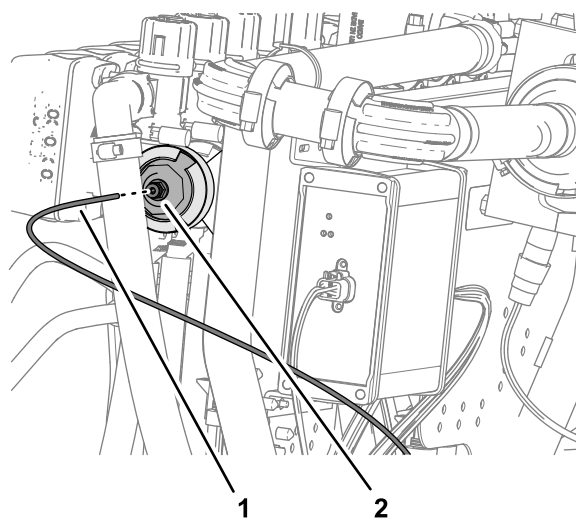

Figure 135
1. Align the end of the pressure-sense tube (plastic) for the pressure gauge in the dash with the locking collar for the tube coupler (Figure 135).
2. Insert the sense tube into the locking collar until the tube is fully seated (Figure 135).